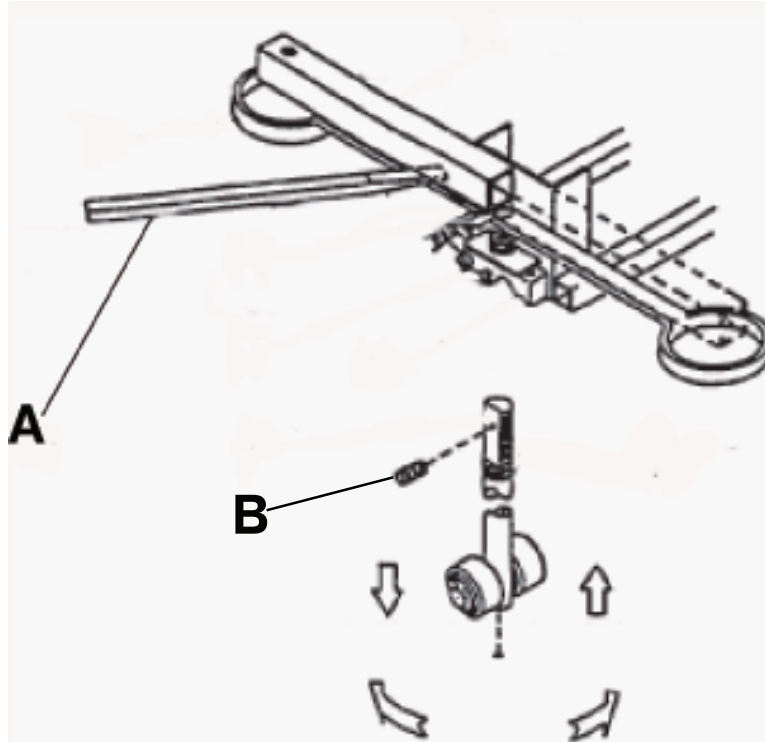

Figure 2 – Brake adjustment
1. Using a pry bar (A), compress the spring to relieve tension on the stud (Figure 2).
2. Using a 3/32" hex wrench, turn the set screw (B) one full turn counterclockwise to tighten the brake.
3. Using a 3/32" hex wrench, turn the set screw (B) one full turn clockwise to loosen the brake.